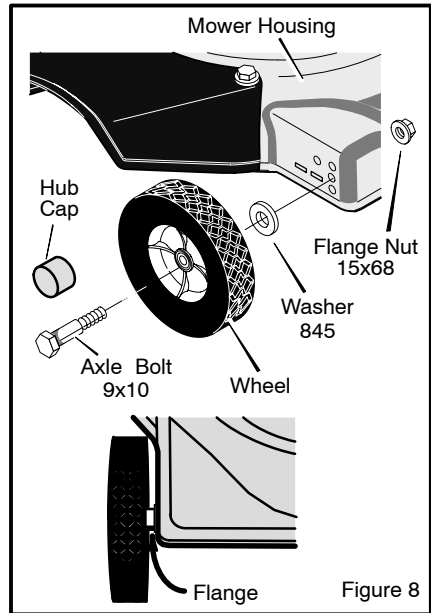

Figure 8
2. Make sure to mount each **wheel** with the **wheel flange** on the inside toward the **mower housing** as shown. Assemble the **wheel** to the **mower housing** with an **axle bolt**, **washer**, and **flange nut** (Figure 8). To tighten, turn the **axle bolt**. Do not turn the **flange nut**.